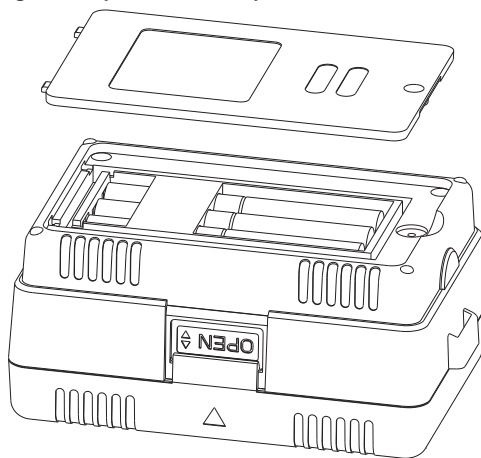

figure 4
7.1.1 Replacing battery and repair(please see figure 4) After low battery indicator show, replacing battery immediately as follows: